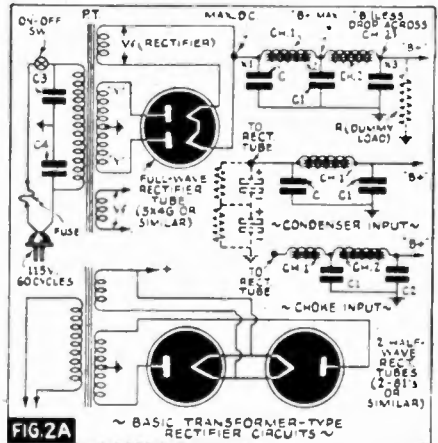

FIG. 2A ~ BASIC TRANSFORMER-TYPE RECTIFIER CIRCUITS ~
- (a) Transformer, and either full-wave or half-wave rectifier tubes, as shown in Fig. 2A.
The condenser, C, in the *condenser input* type of circuit must be capable of withstanding the instantaneous peak A.C. input voltages (1.4 times the r.m.s. value indicated on an A.C. voltmeter), and consequently, this is a common point of failure due to insufficient rating. To correct this condition when a sufficiently high-rating condenser is not available, 2 lower-voltage condensers may be connected in series to get the desired result, viz., two 16-mf., 400-working-volts condensers in series in place of one 8-mf., 475-working-volts condenser. When using series condensers for this purpose, they should be shunted by equal, high resistances to equally divide the total strain across the 2 condensers; this is shown by dotted lines in Fig. 2A. For the above case, equal resistors of about 50,000 to 100,000 ohms would be satisfactory.